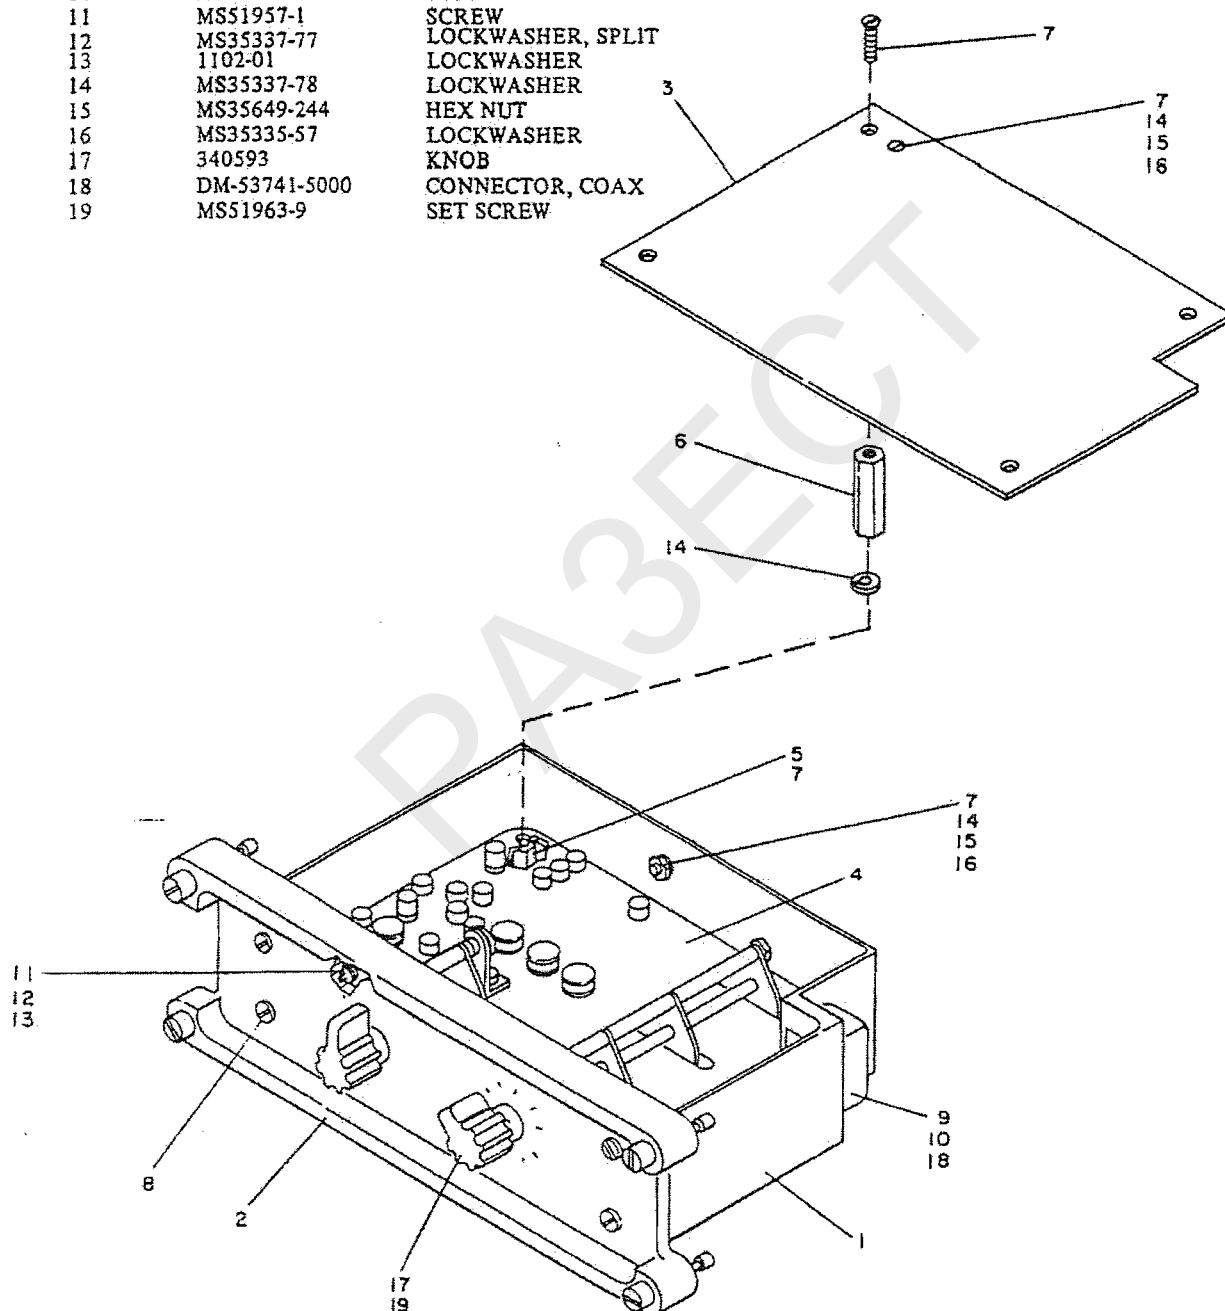

Figure 7-2. CS-224 Crystal Selector
- (1) Remove four mounting screws and lift the case cover clear of the case (figure 7-2).
- (2) Detach the case ground wire at the rear of the case.
- (3) Remove the four standoff-mounting screws that secure the board to the case.
- (4) Remove the four front panel mounting screws that secure the front panel to the case.
- (5) The board and front panel assembly can be lifted from the case and tilted up for maintenance.